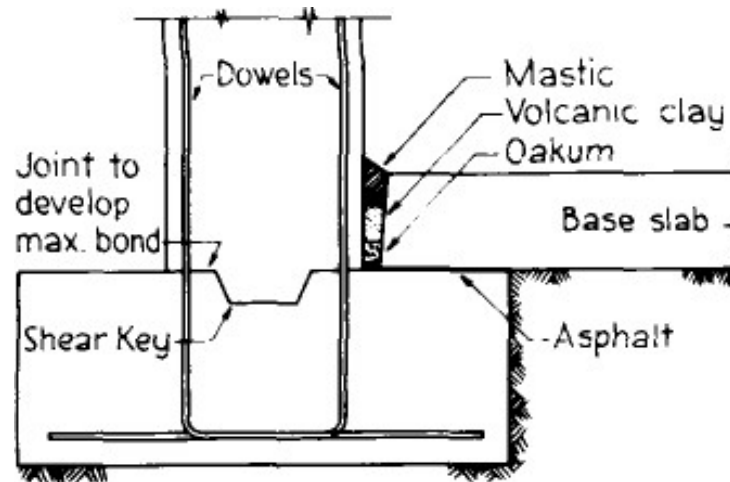
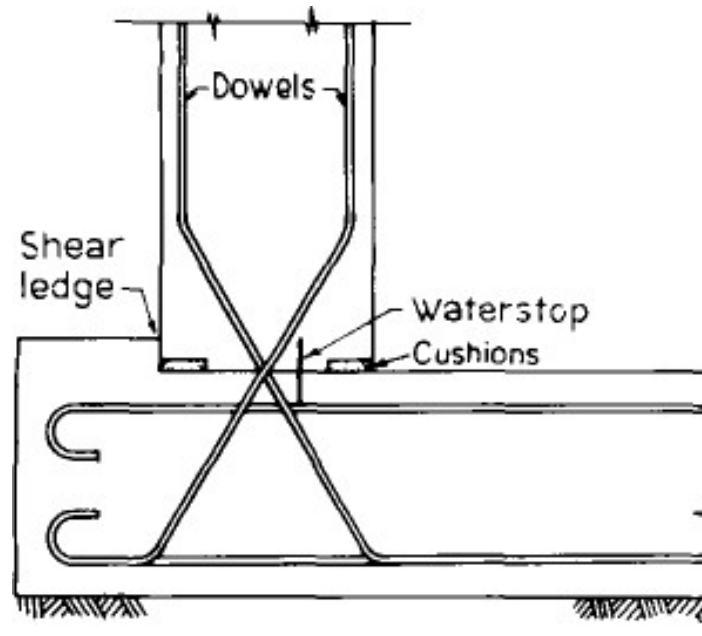

Fig. 9.
Fig. 10.
- Consider first the detail in Fig. 9, which shows the wall supported on a relatively narrow continuous wall footing,
- In Fig. 9 the condition of restraint at the bottom of the footing is somewhere between hinged and fixed but much closer to hinged than to fixed.
- The base slab in Fig. 9 is placed on top of the wall footing and the bearing surface is brushed with a heavy coat of asphalt to break the adhesion and reduce friction between slab and footing.
- In Fig. 10 a continuous concrete base slab is provided either for transmitting the load coming down through the wall or for upward hydrostatic pressure.
- In either case, the slab deflects upward in the middle and tends to rotate the wall base in Fig. 10 in a counterclockwise direction.
- Provision for transmitting shear through direct bearing can be made by inserting a key as in Fig. 9 or by a shear ledge as in Fig. 10.
- **At top of wall** the detail in Fig. 10 may be applied except that the waterstop and the shear key are not essential. The main thing is to prevent moments from being transmitted from the top of the slab into the wall because the wall is not designed for such moments.